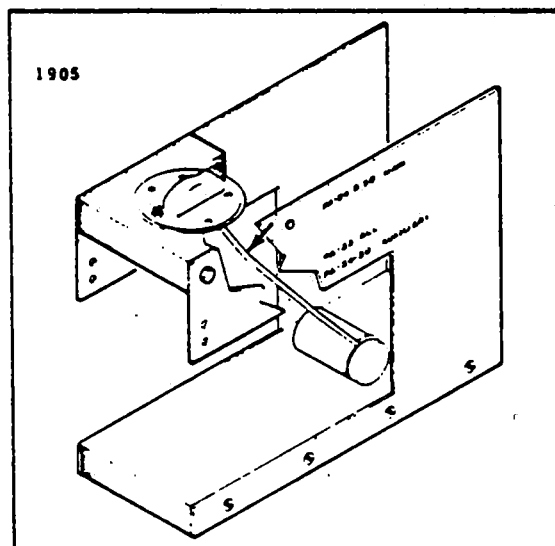

Figure 9-5. Checking Sender Unit
2. Secure the sender in the appropriate position on the fabricated jig as shown in Figure 9-5. (The jig may be fabricated from dimensions given in Figure 9-15.)
3. With the float arm against the bottom stop, the float should be just touching the base of the jig. If the float arm is not touching the base of the jig or the bottom stop, adjust the float by bending the arm at a position shown in Figure 9-5.